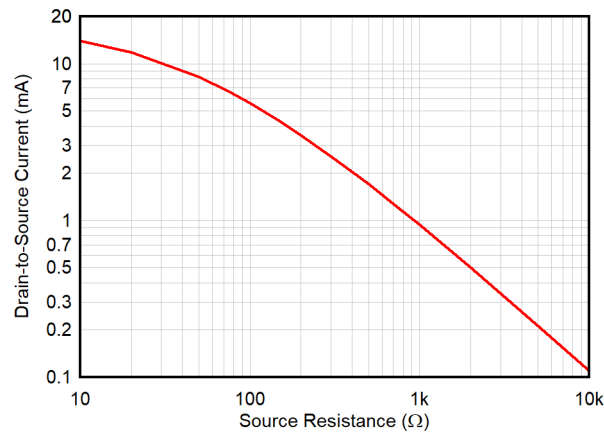

Figure 9-4. Drain-to-Source Current vs R_S , $V_{DS} = 5$ V
R_S , and the threshold voltage, V_T , of the JFE2140. For JFETs, this threshold voltage is equivalent to the gate-to-source cutoff voltage, V_{GSC} . A graph showing nominal I_{DS} vs R_S is shown in Figure 9-4.
R_{S2}	Bias-current setting resistor. This resistor, along with R_{S1} , determine the bias current when using resistive biasing (see Figure 9-4). Be aware that both R_{S1} and R_{S2} resistance directly impact noise performance.
- The bias current is set by selecting the desired bias current and noise tradeoff (see Figure 6-16). To set the bias current point, adjust the source resistance according to Figure 9-4.